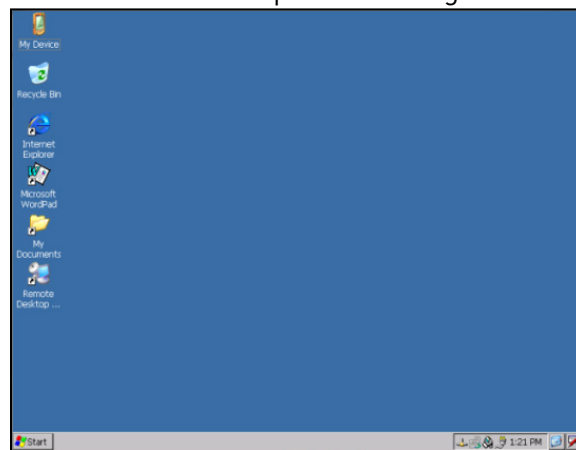

Figure 44 - Touch Screen Operating System Screen
5. With the touch screen on, exit the SSi controller application if it is open. (Refer to the controller manual or contact SSi at (513) 772-0060 if you have questions about how to do this.) The operating system screen will appear once the controller application is shut down. It will look similar to the screen pictured in Figure 44.